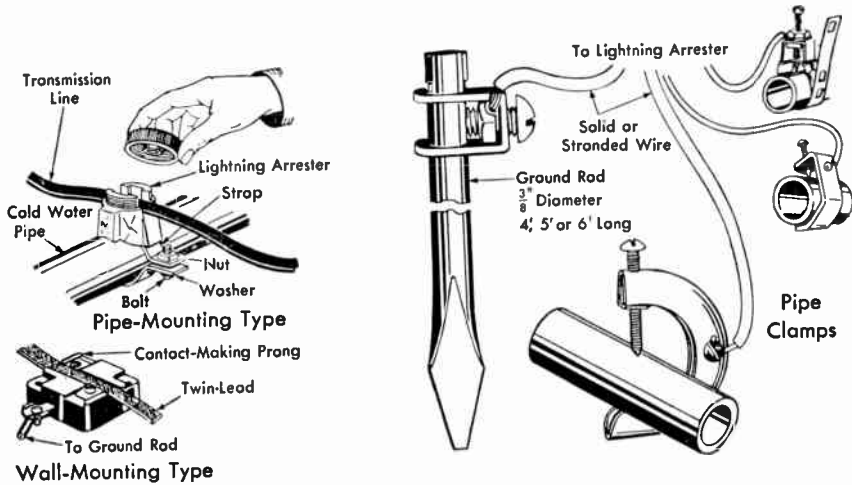

Fig. 14. Examples of lightning arresters, ground rods, and pipe clamps
**Protecting against Lightning.** A television antenna system must be grounded for protection against lightning. Where the antenna and mast are insulated from each other, both must be protected from lightning. This is done by connecting the mast directly to ground and using a lightning arrester on the twin-lead transmission line. Examples of lightning arresters for twin-lead are shown in Fig. 14.